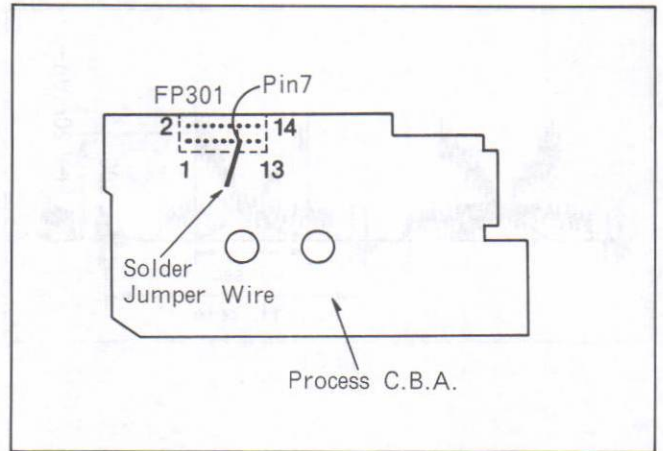

Fig.C15
- (1) Aim the camera at the gray scale chart.
- (2) Connect the jumper wire among TP511, TP512 and TP513.
- (3) Connect the scope to pin 7 of FP306. (Refer to Fig. C15)